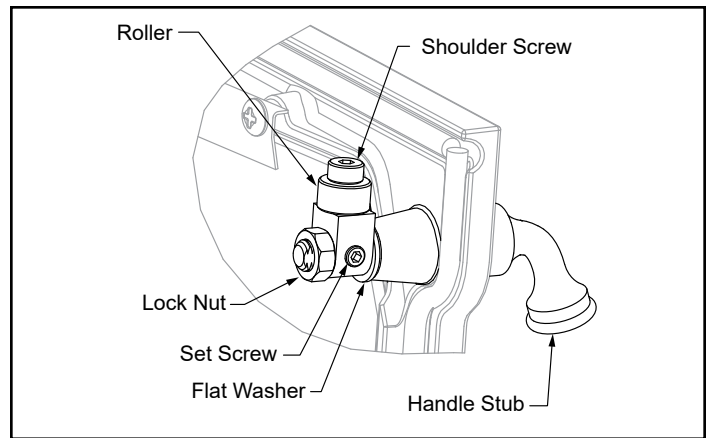

Figure 6.3 - Rotate pawl and/or remove flat washer to adjust latch.
1. Remove and retain the lock nut with a 9/16" wrench, Figure 6.3.
9. The stove's doors may need adjustment after you have regasketed them. Initially, it may require loosening the latch to accommodate the new gasket; after a few weeks, it may need tightening to compensate for compression of the new gasket. See Figure 6.3 for directions on adjusting the latches.